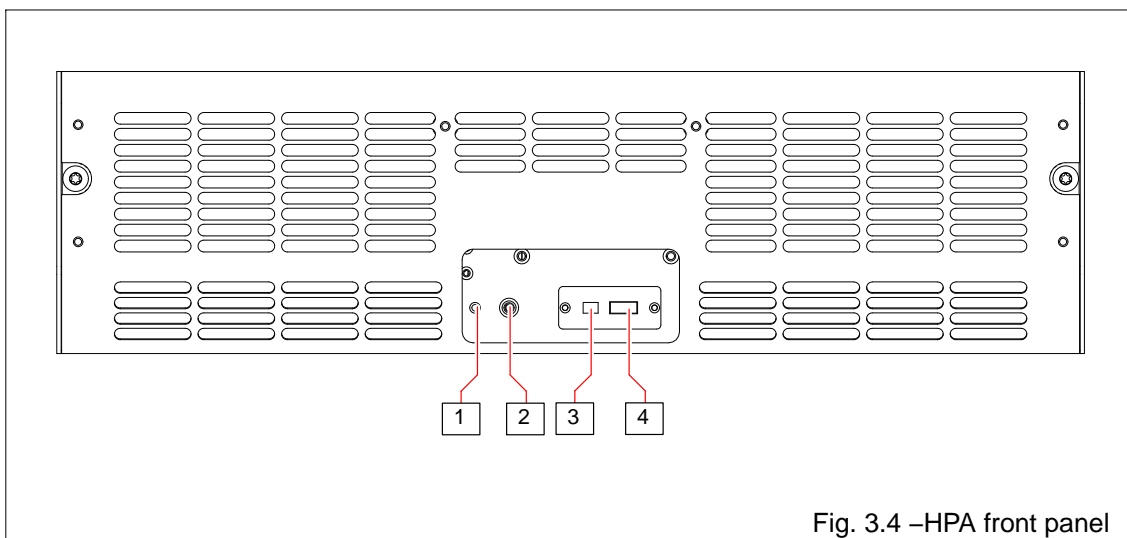

Fig. 3.4 –HPA front panel
- Tab. 3.4 refers to Fig. 3.4 which is the call out of “HPA” front panel
Tab. 3.4 – HPA front panel (ref. Fig. 3.4)